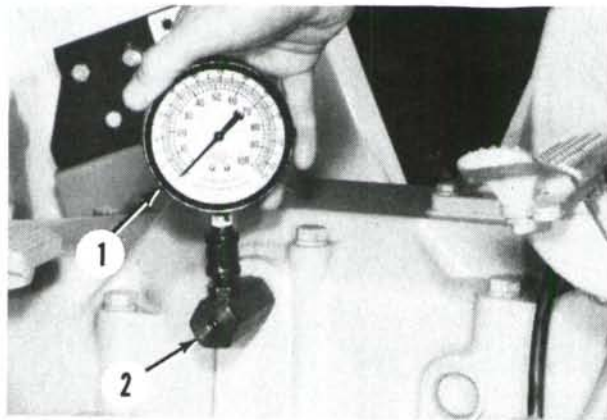

Fig. 189—Install pressure gage (1) using special adapter CAS-1242 (2) in control valve test port to check control valve relief pressure.
255. SETTING CONTROL VALVE PRESSURE. Reinstall control valve and tighten mounting bolts to 34 N·m (25 ft.-lbs.) torque. Install front and rear sequence valves. Move control valve spool fully forward and remove plug (4—Fig. 188) from control valve test port. Install transmission cover and remote valve assembly. Do not install power shift selector lever at this time. Remove test port plug from right side of transmission cover. Install special adapter CAS-1242 (2—Fig. 189) and a 0-1000 kPa (0-150 psi) pressure gage (1) through opening in cover and into control valve test port.